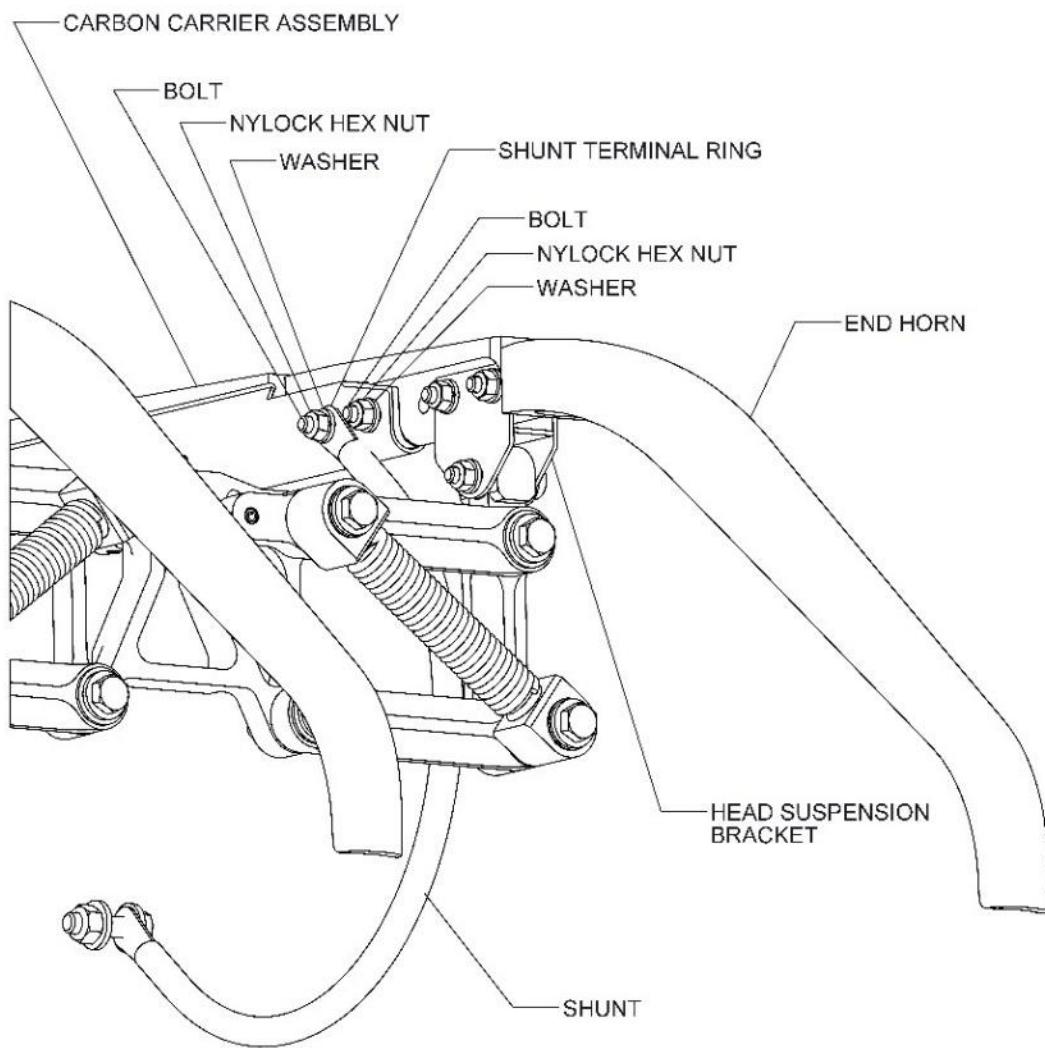

Figure 7-4: Carbon Strip Replacement
2. Remove bolts, hex nuts, and washers that retain the shunts to the carbon carrier assembly. Discard the hex nuts. These are nylock nuts that must be replaced. See Figure 7-4.